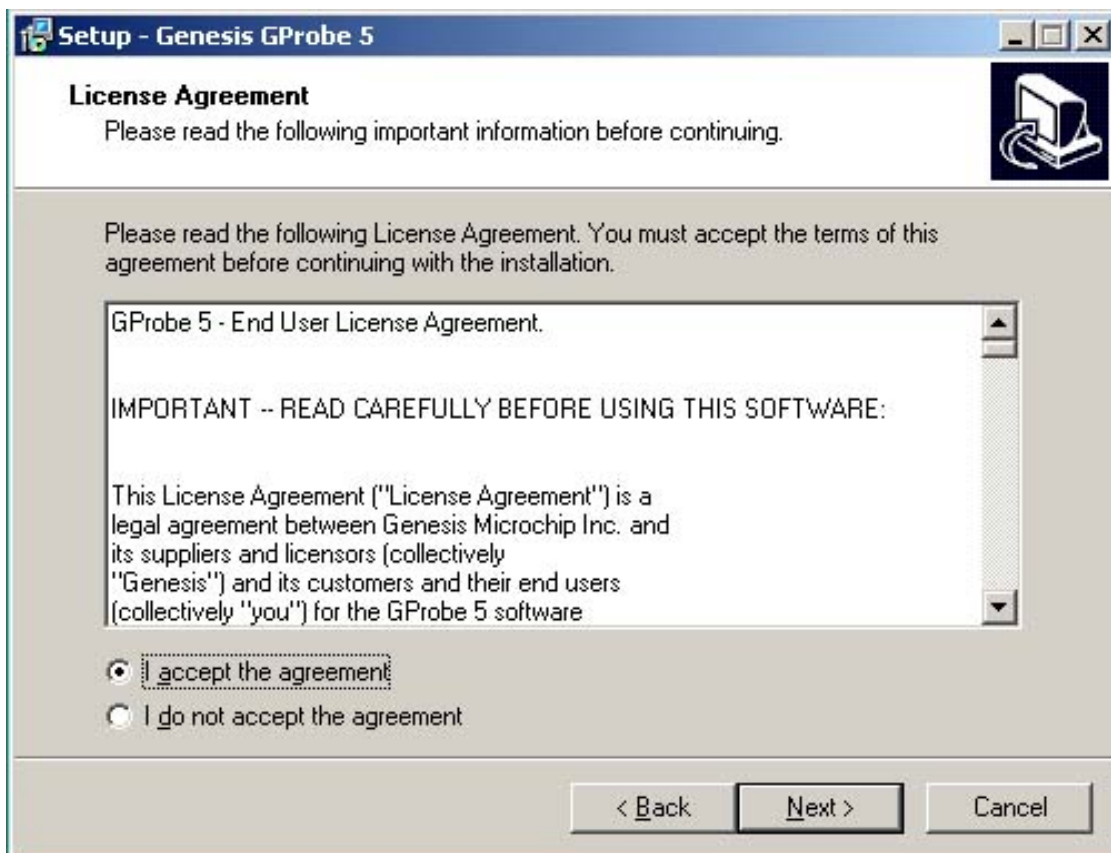

Fig. 0.2
0.2 Keep on press “Next “ 4 times to go through the installation processes, see Fig. 0.2